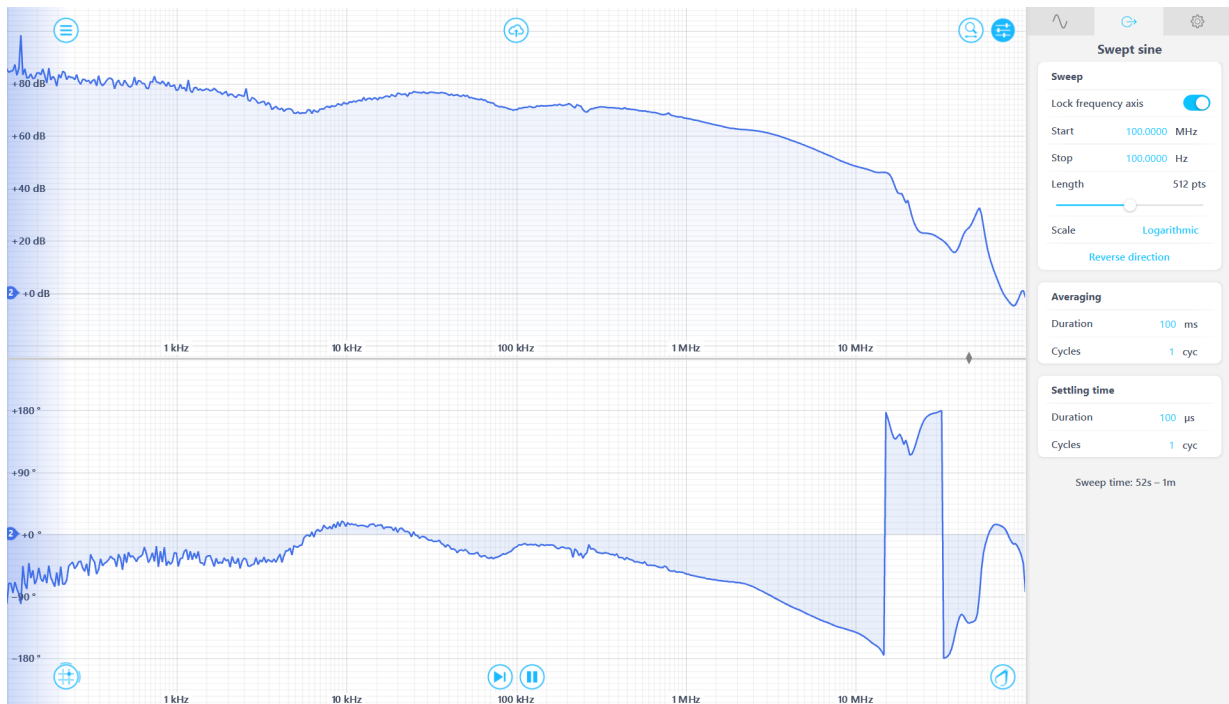

Figure 26. Refined measurement of the power board with capacitors 1 and 2 attached on the output.
- Increase the averaging duration to 100 ms, as shown in Figure 26, which shows significantly reduced noise, particularly at the lower frequencies.